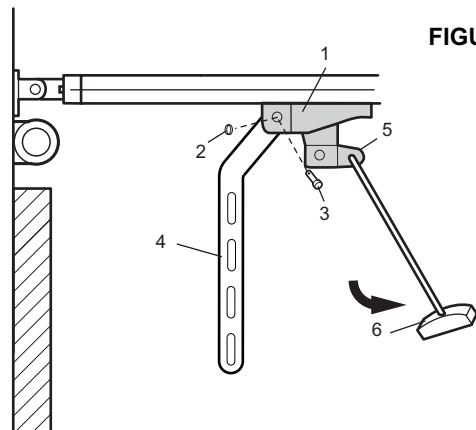

FIGURE 6
- Disengage the outer trolley from the inner trolley by pulling *down* the manual release rope and handle (Figure 6).